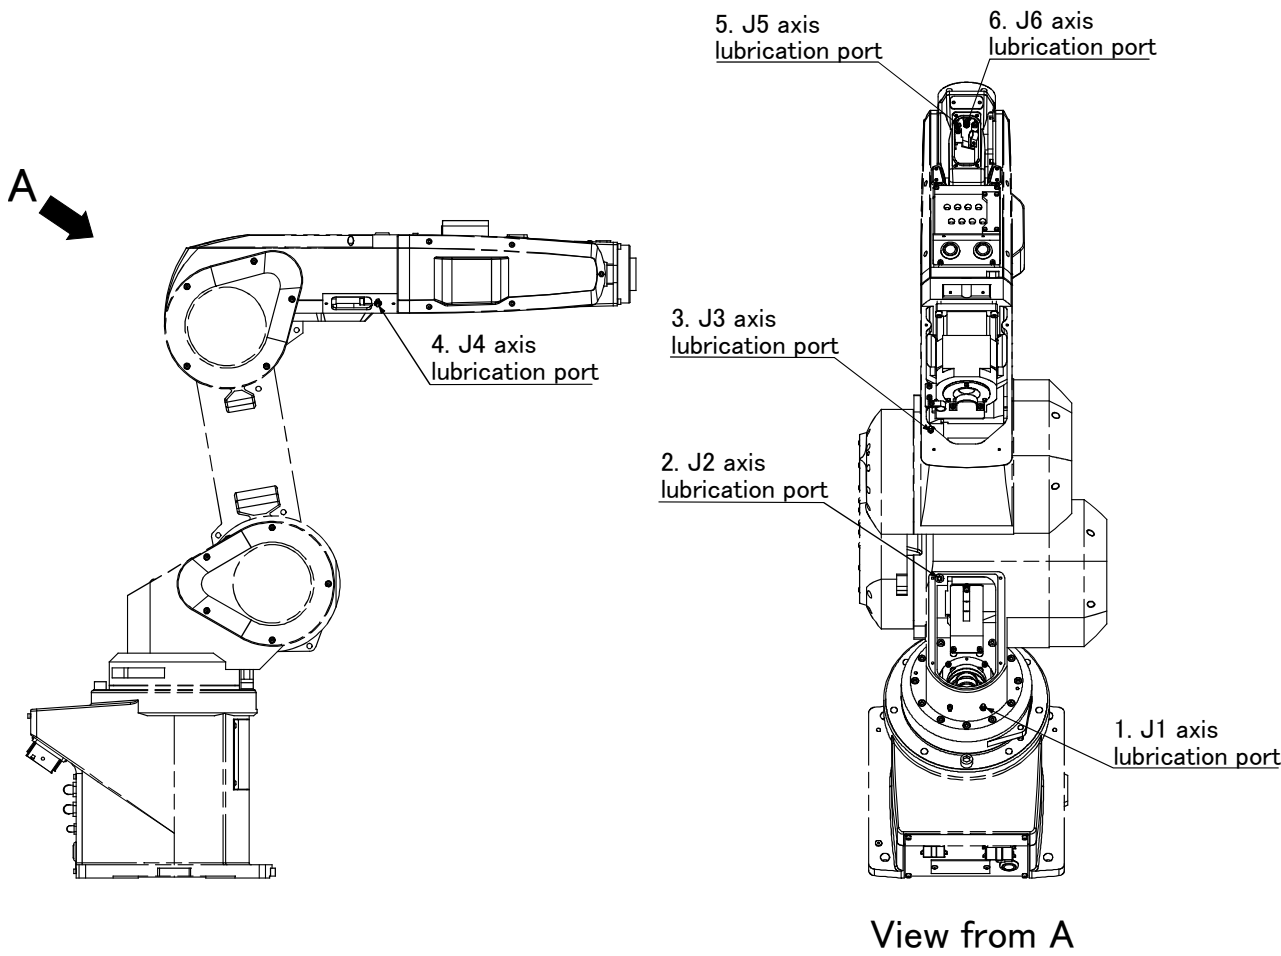

Fig.5-6 : Lubrication positions
- The numbers in the correspond to the supply positions in Fig. 5-6.
(2) Lubrication method
- 1) Set the robot to the posture shown in Fig. 5-6.